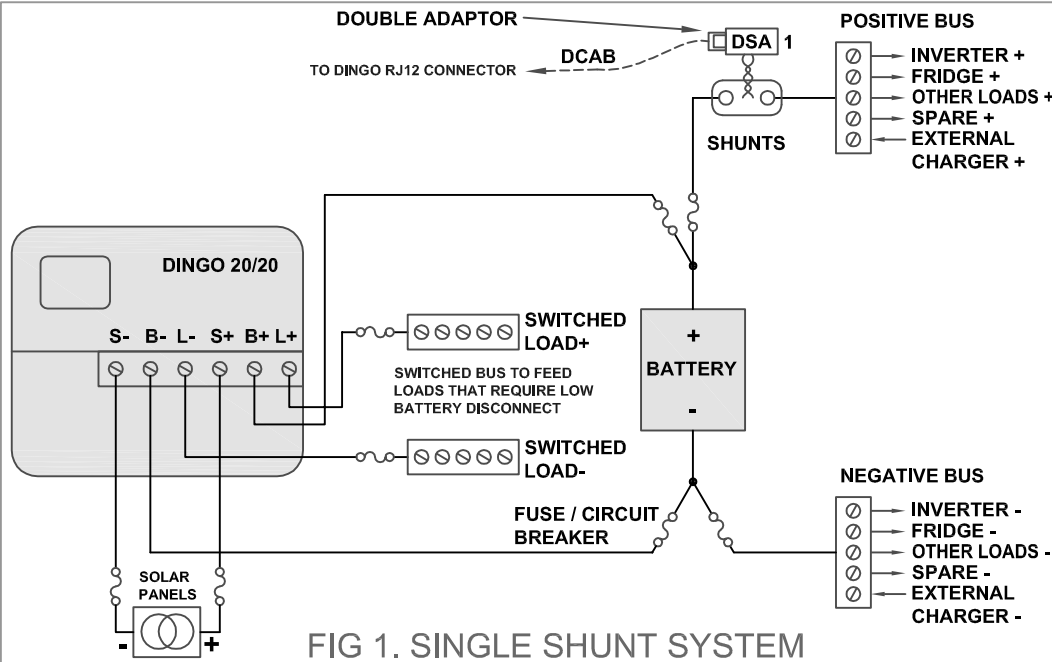

FIG 1. SINGLE SHUNT SYSTEM
6. IN FIG 1, DSA/SHUNT READS 'BALANCE' OF LOAD/CHARGE CURRENT SINCE SOME EXTERNAL CHARGE CURRENT MAY BE 'TAKEN' BY LOAD AND NOT GO THROUGH SHUNT.